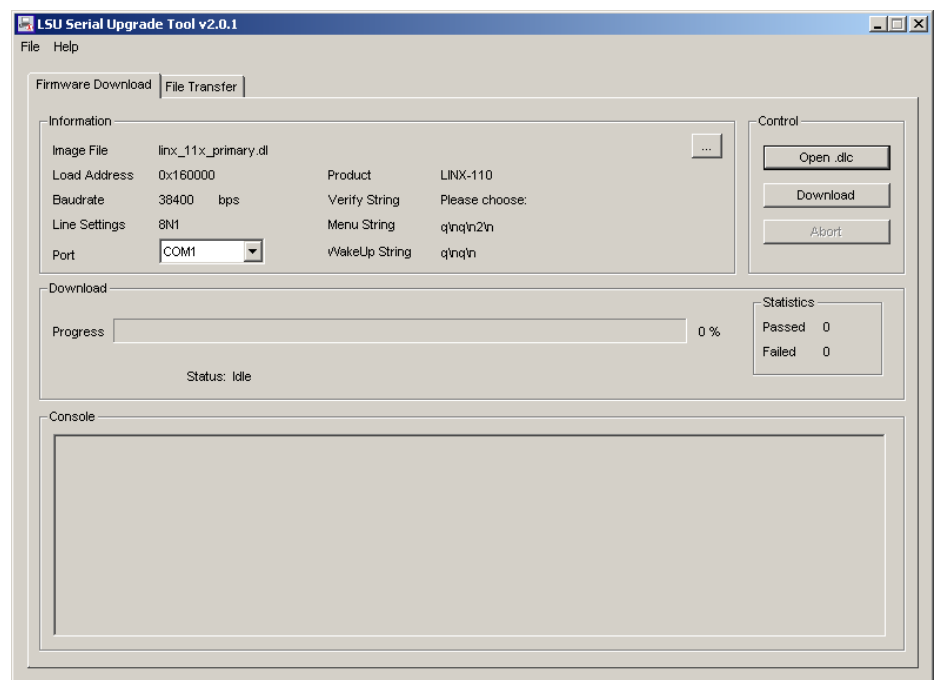

Figure 165: LSU Serial Upgrade Tool in Idle Mode.
1. Double click on the *.dlc file that comes with the new firmware package. This should start the LSU Tool and load the firmware image referenced in the dlc file. Please note that the dlc file and the dl file must be stored in the same folder. The start window of the LSU tool is shown in Figure 165.